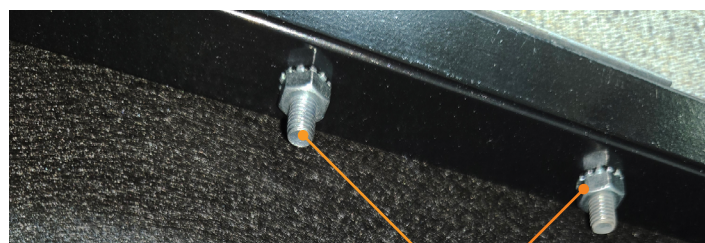

Fig.6
4. Secure bolts with nuts located on the underside (Fig. 6).